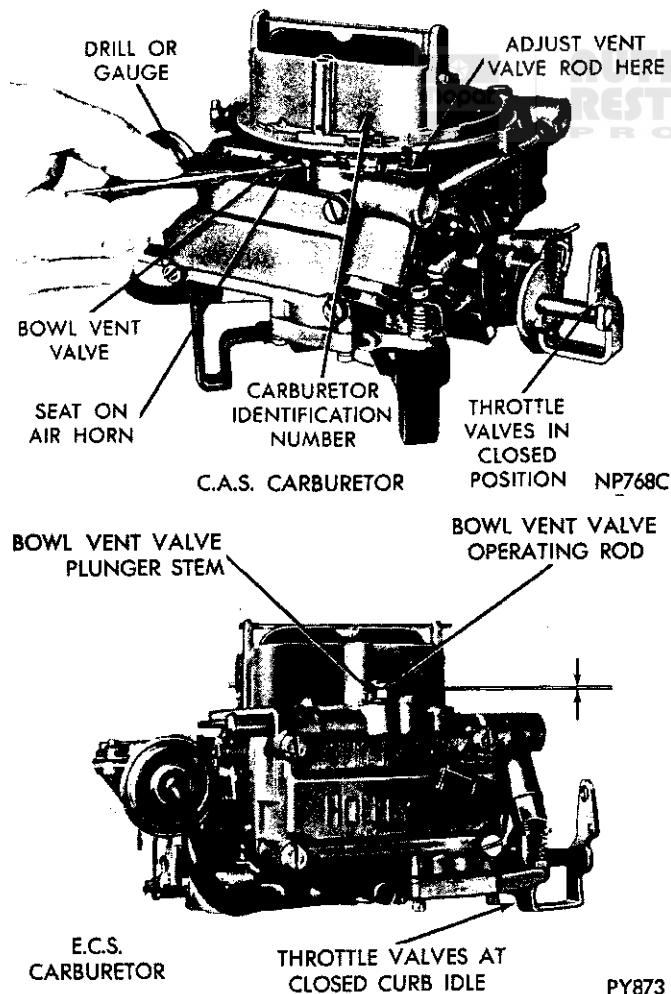

Fig. 16—Checking Bowl Vent Valve Clearance (C.A.S. and E.C.S.)
To check the bowl vent valve clearance (Fig. 16), proceed as follows:
(1) With the throttle valves at curb idle, it should be possible to insert a number 72 drill shank (.005 to .025 inch) between bowl vent valve plunger stem and operating rod, (Fig. 16).
(2) If an adjustment is necessary, bend rod to change arc of contact with throttle lever, using Tool